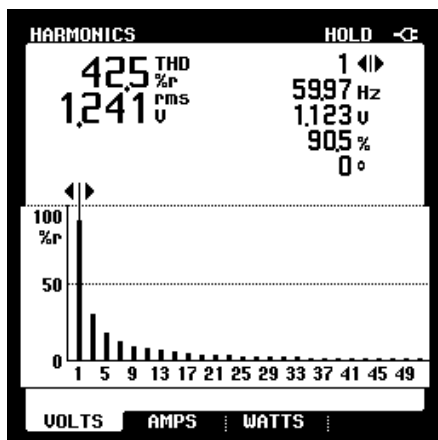

Figure 4-10. Bargraph Harmonics Volt
6. Check the bargraphs of VOLTS look like the ones in Figure 4-10.